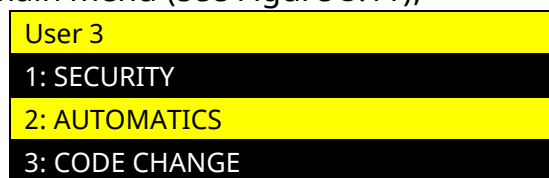

Figure 5.11 – User main menu
- 2) go to the user main menu (see Figure 5.11);